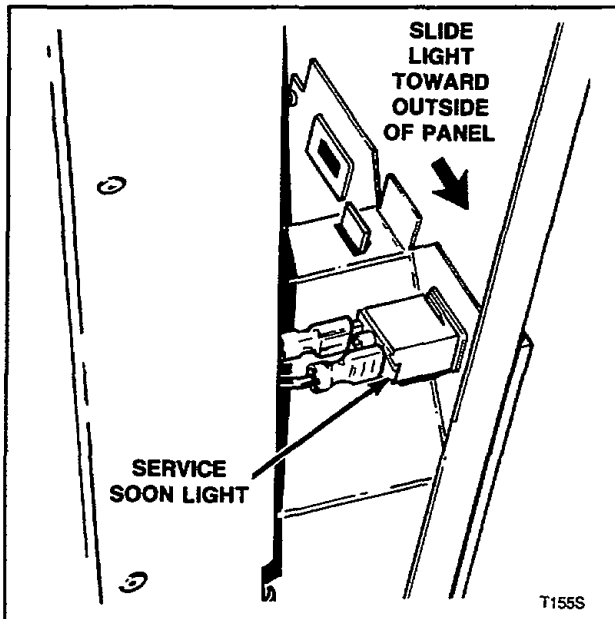

Figure 8
**7. SERVICE SOON LIGHT (Figure 8)**